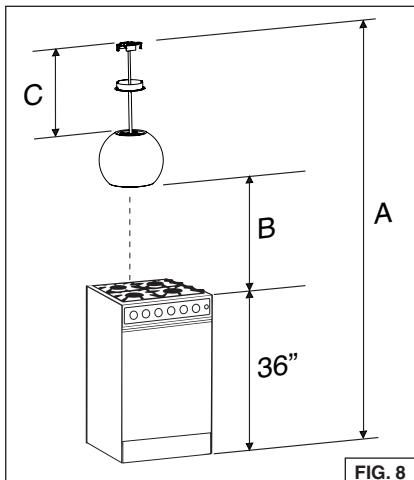

FIG. 8
3. Adjust height of downrod according to ceiling height and desired distance above cooktop. See chart and Fig. 8